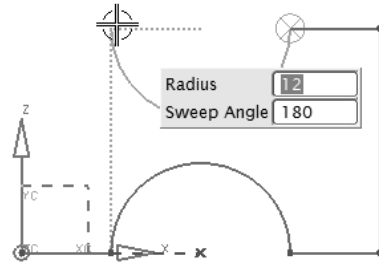

Figure 2-60 Horizontal and vertical help lines displayed to define the endpoint of the arc
13. Move the cursor over the lower arc once and then move it toward the left, in line with the upper right horizontal line from where this arc starts, refer to the Figure 2-60.
A horizontal help line is displayed originating from the center of the arc being drawn. At the point where the cursor is vertically in line with the start point of the lower arc, the vertical help line appears from the start point of the lower arc, refer to the Figure 2-60.